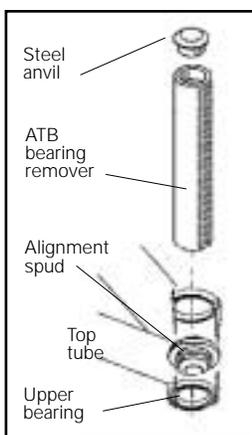

Fig. 49
2. Insert the large end of the **alignment spud** into the upper bearing (Fig. 49).